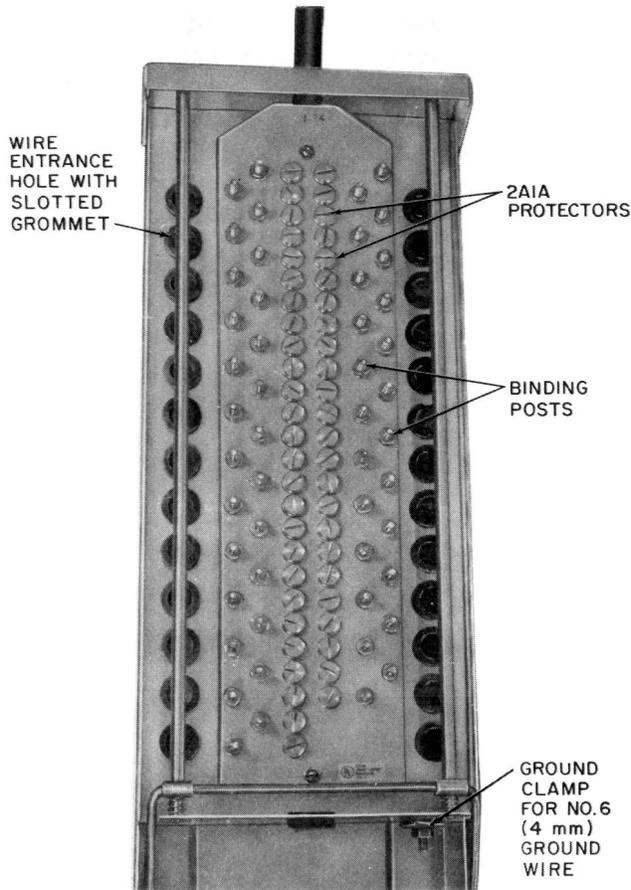

Fig. 15—NH25 Cable Terminal
3.20 The NH25 cable terminal (Fig. 15) has fifty binding posts, fifty 2A1A protector units, and the housing is equipped with a drop-type cover. It may be pole or wall mounted. Where the NH25 cable terminal is wall mounted on the premise of a customer, it must be bonded (grounded) to an acceptable ground (Table D).